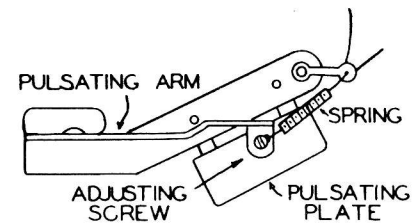

FIGURE 2
B. The pulsating plate in the trip mechanism is actuated by the pulsating arm and the cam on the underside of the turntable. If the pulsating arm is loosely riveted to the bracket, the screw on the end of the pulsating arm will move back and forth over the pulsating plate. This changes the distance the plate is lifted by the pulsating arm and affects the trip adjustment. A spring has been added in production to hold the end of the lever under tension so that it does not move "in" and "out" and change the trip adjustment. On record changers not equipped with this spring, use the lead spring Part No. 28-8919 and connect as shown in Figure 2. Attach the spring to the wiring terminal on the end of the bracket and to the adjusting screw. Check to make sure that the pulsating roller does not scrape the hub on the under side of the turntable.